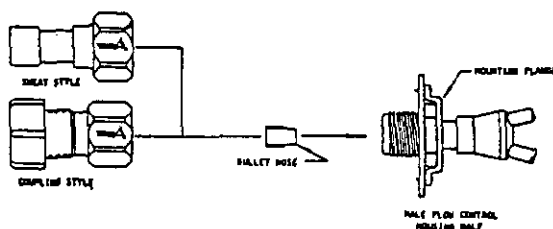

FIGURE 1.
**CAUTION:** Be sure there is no dirt introduced into the distributor - orifice assembly. Be sure and install the orifice with the bullet nose pointing in the proper direction as shown in figure 1. Failure to do so will result in improper operation.
**NOTE:** If the orifice does not have to be changed, skip the instructions outlined further in figure 1 and proceed to figures 2 or 3 as applicable.